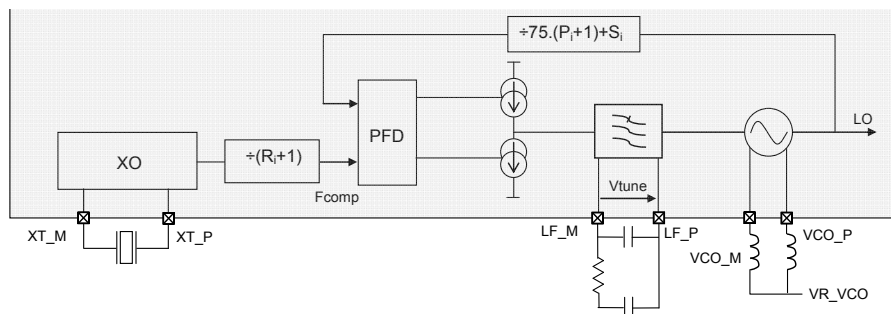

Figure 5: Frequency Synthesizer Description
The crystal oscillator (XO) forms the reference oscillator of an Integer-N Phase Locked Loop (PLL), whose operation is discussed in the following section. Figure 5 shows a block schematic of the SX1211 PLL. Here the crystal reference frequency and the software controlled dividers R, P and S determine the output frequency of the PLL.
As shown in Figure 5 the PLL structure comprises three different dividers, R, P and S, which set the output frequency through the LO. A second set of dividers is also available to allow rapid switching between a pair of frequencies: R1/P1/S1 and R2/P2/S2. These six dividers are programmed by six bytes of the register MCPParam from addresses 6 to 11.